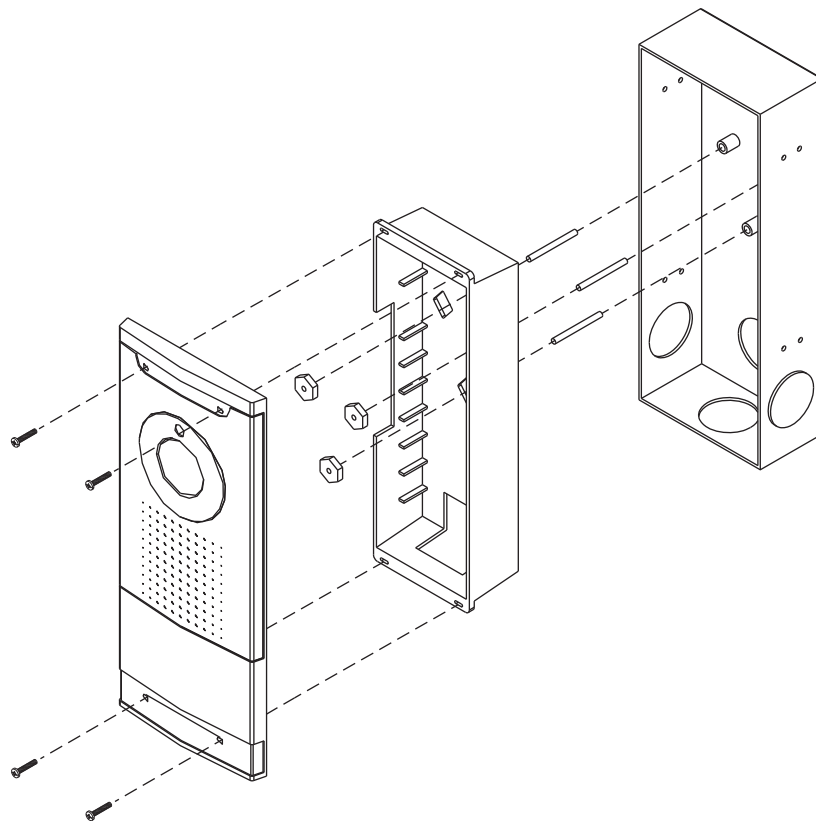

Figure 3
- 6) Place the door station on top of the metal backbox. While holding the door station in place, screw the 4 supplied screws into the openings on the top and bottom of the door station (**Figure 3**). Make sure the screws attach into the slots on the plastic backbox. Gently tighten the screws until the door station is securely fastened to the backbox. Do not over tighten the screws.